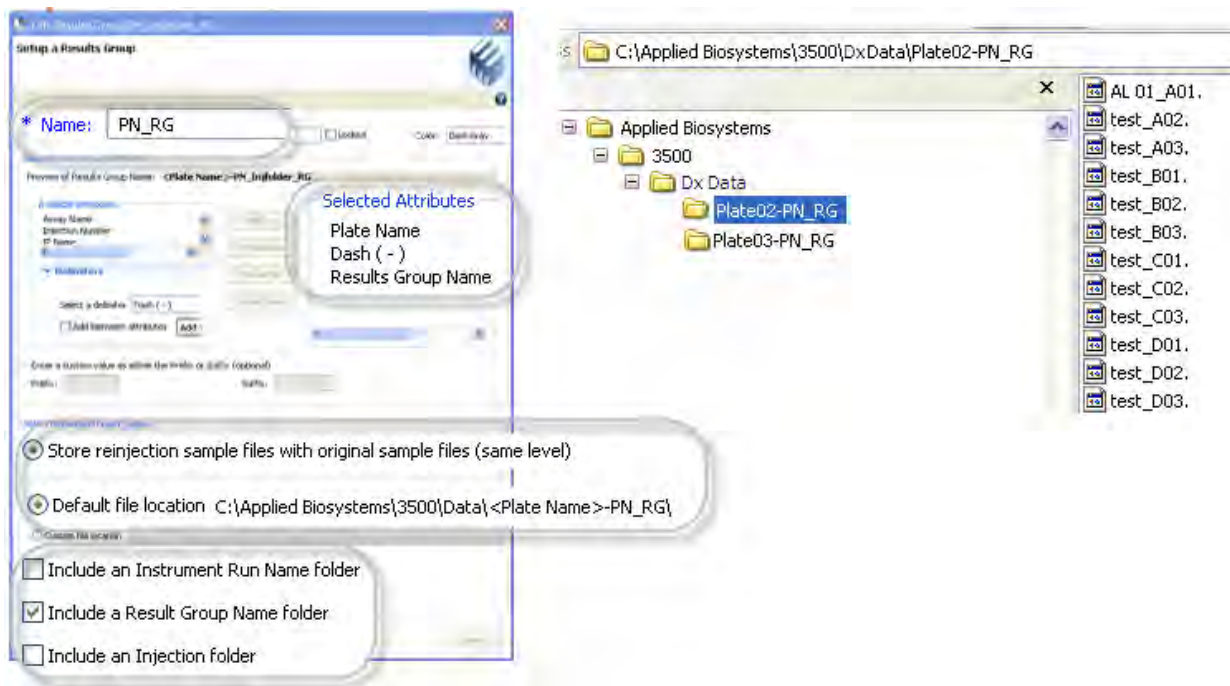

Figure 19 PN\_RG results group
- Figure 19 shows the factory-provided PN\_RG results group and the folders created when it is used. This results group does not create a folder for each injection. All samples for a plate are stored in the same folder. If you include two plates in a run, a separate folder is created for each plate.